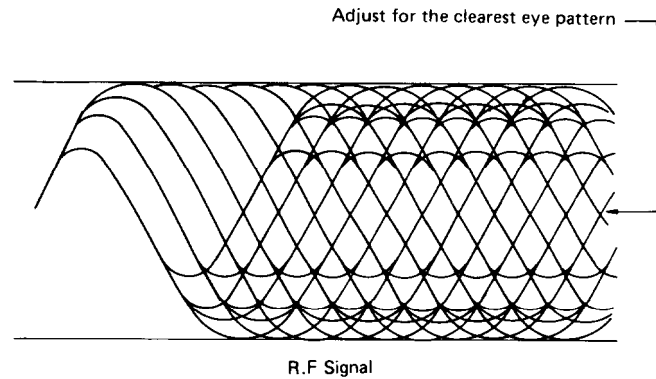

Fig. 4
- 3) Adjust the skew screw by turning it so that the clearest waveform is obtained. (See fig. 4)
- 3) Adjust SF502 by turning it so that the clearest waveform is obtained. (See fig. 4)